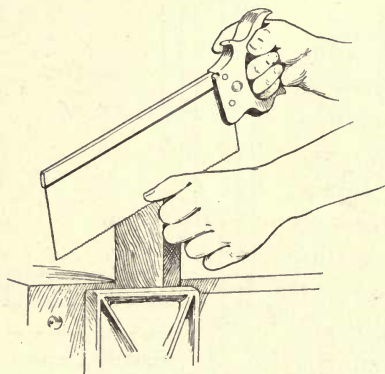

FIG. 16.—FIRST CUT IN MAKING HALVED JOINT.
*a.* Hold the piece perpendicular in the vise, as in Fig. 16. Hold the thumb nail of the left hand in the groove made by the marking gauge and set the teeth of the rip saw so that they will just touch the thumb nail, and so will split the line.